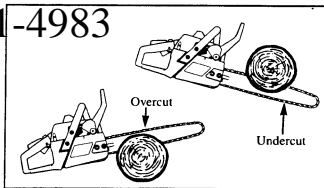

Figure 25
2. TYPES OF CUTTING USED (Figure 25)